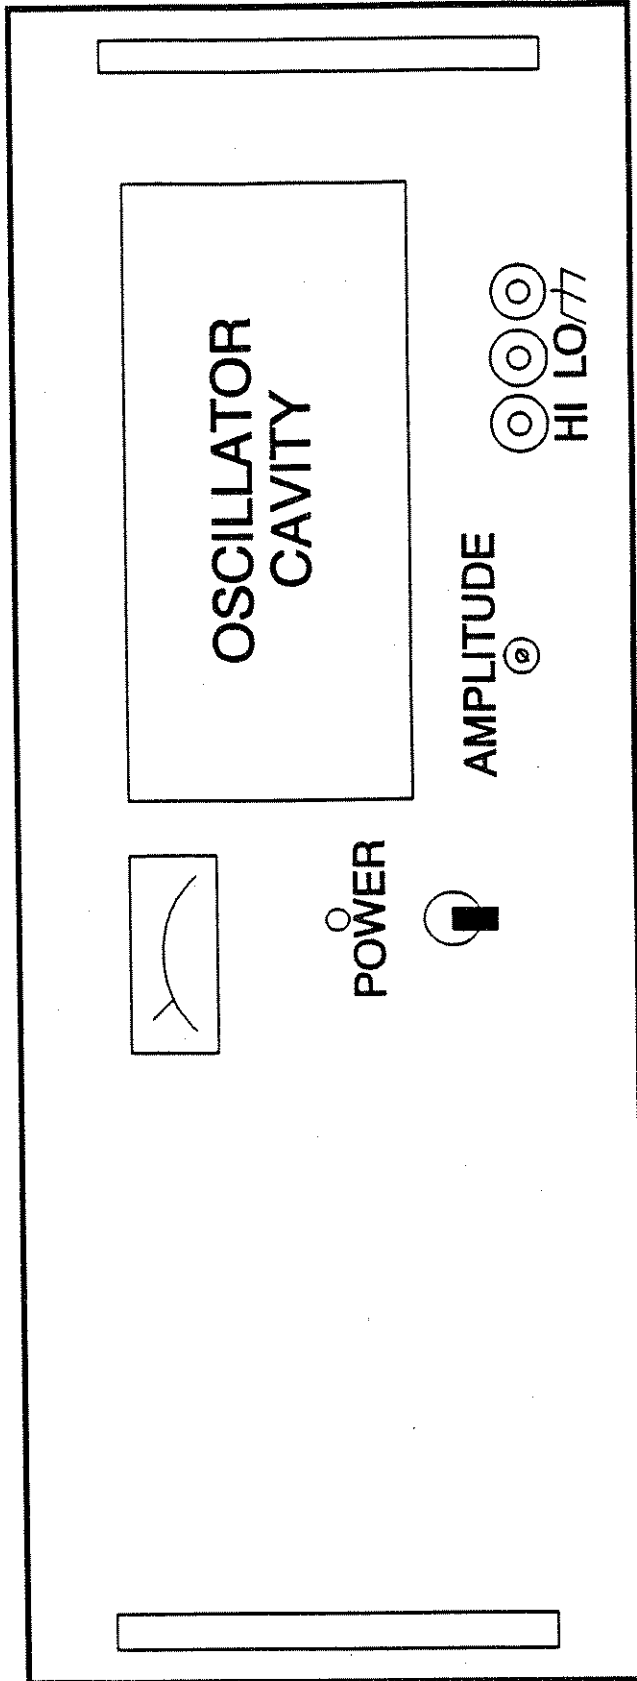

Figure 2-12. Model 1001SX (Front View)
1. Before installing the power source, verify that the input and output voltage ranges are compatible with the available utility power and the output voltage application. Refer to Figures 2-12 and 2-13, Table 2-1, and the unit serial number tag for model number information.